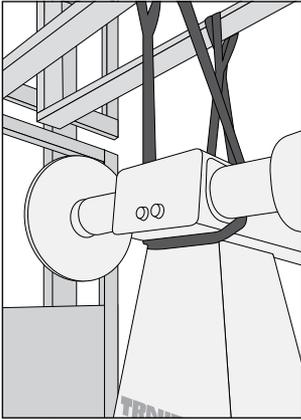
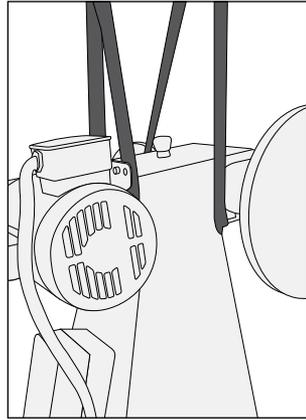

FIG. 1
FIG. 2
- The straps must be located underneath the base as shown below (Fig. 1 & 2). Make sure that the straps are as close to the back of the base as possible, (Fig. 1). The straps must also be positioned around the motor mount adjustment bracket (Fig. 2).